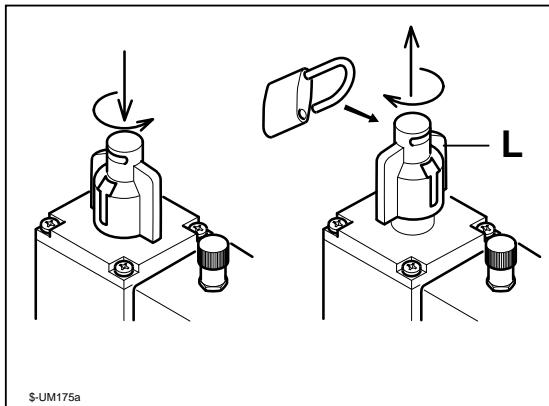

Fig. 2.19
- Press the knob L (Fig.2.19) down fully and rotate to switch on the compressed air supply to the machine.